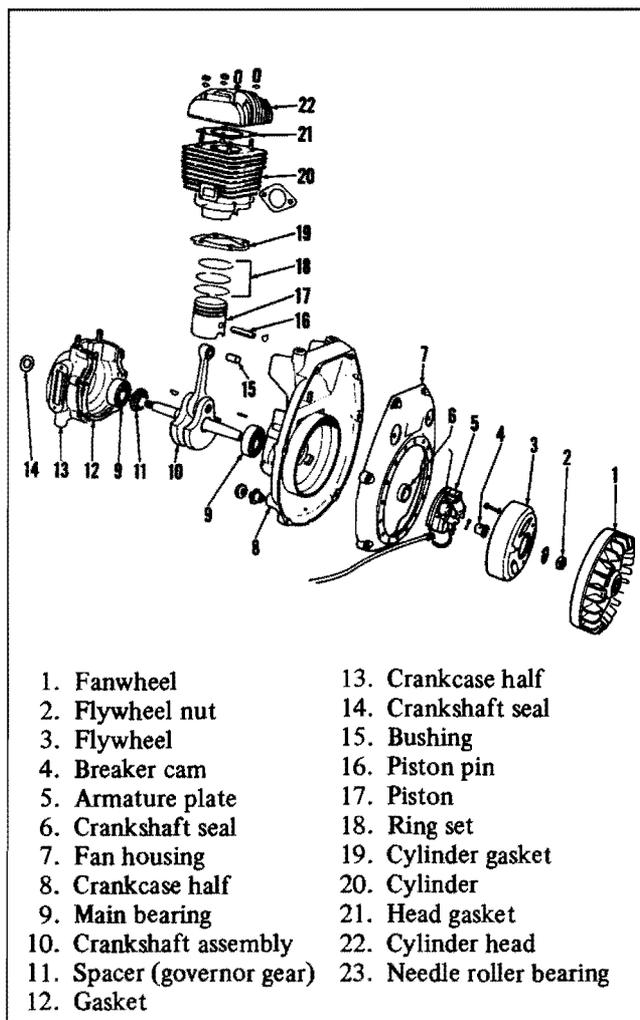

FIG. 10
D. ENGINE REPAIR (FIG. 10) 230 JLO